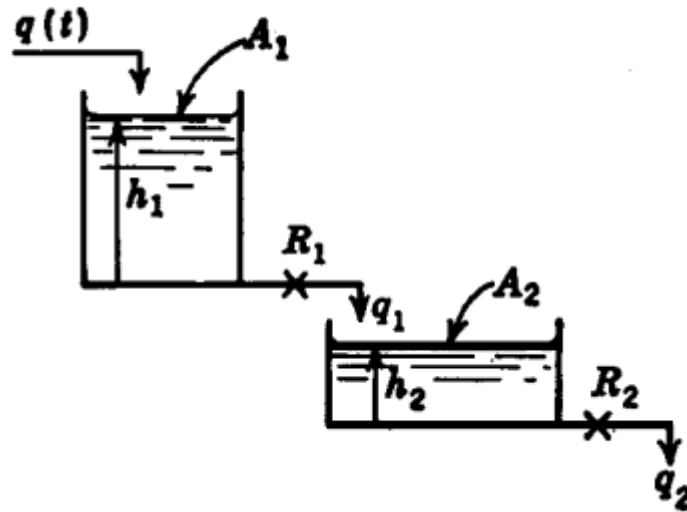

Figure 1.
- 2 a) Determine the transfer function $\frac{H_2(s)}{Q(s)}$ for the two tank non-interacting system shown in the Figure 1. **12**